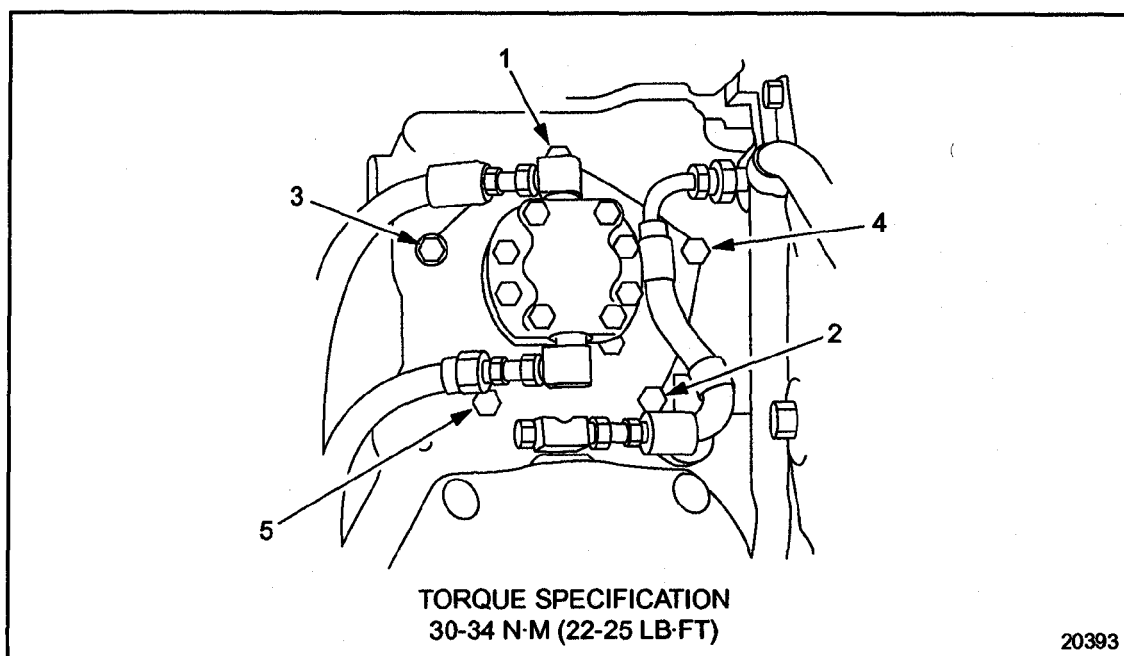

Figure 2-40 Fuel Pump Drive Retaining Bolt Torque Sequence
2. Install the fuel pump drive bolts and torque to 30-34 N·m (22-25 lb·ft) using the torque pattern. See Figure 2-40.